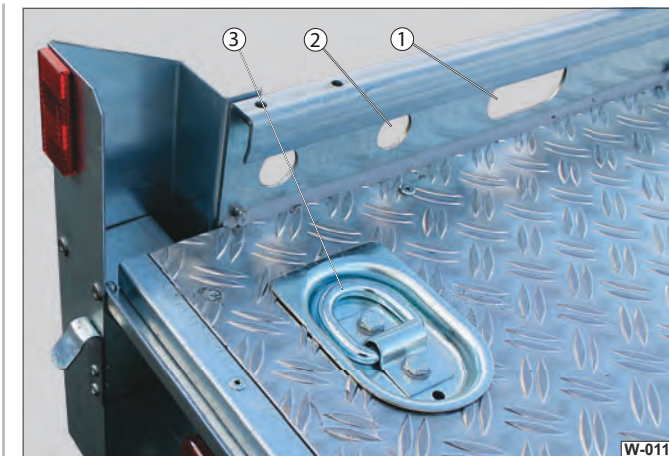

Fig. 11 Check tie-down points
- ▶ Regularly check (at least every 6 months) the tie-down rings (Fig. 11 /1) for, distortion, deformation.
- ▶ Regularly check (at least every 6 months) the round holes (Fig. 11 /2) for distortion, deformation.